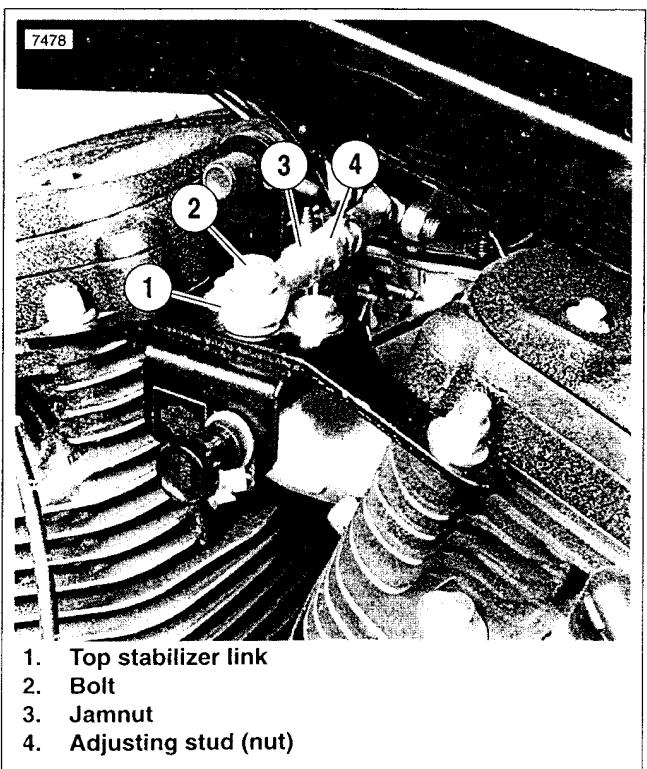

Figure 2-64. Top Stabilizer
- See Figure 2-64. Remove the bolt (2) which attaches the top stabilizer link (1) to the engine mounting bracket.